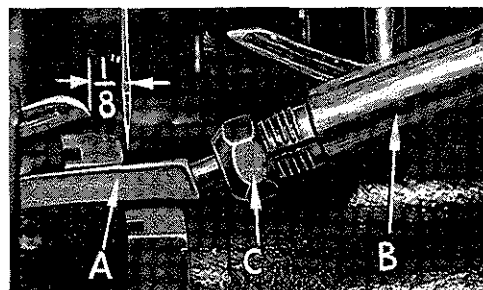

Fig. 5
At this point, insert lower looper (A, Fig. 5) into bar (B). With lower looper at left end of its stroke, set looper point  $\frac{1}{8}$  inch from center of needle (Fig. 5), using looper gauge No. 21225- $\frac{1}{8}$  for Styles 39500 FN, FV, GP and GU. Set looper point  $\frac{3}{32}$  inch from center of needle (Fig. 5), using looper gauge No. 21225- $\frac{3}{32}$  for Styles 39500 FX and JX. Do not have lower looper deflecting needle. Tighten nut (C).